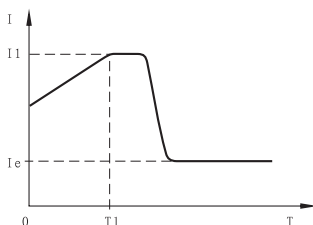

Figure 12-4-1
- a) The motor will be under current starting mode when code F9 is set to 4(current ramp). Figure 12-4-1 shows the output current wave of the current ramp starting mode, I_1 is the time value set by code F1.